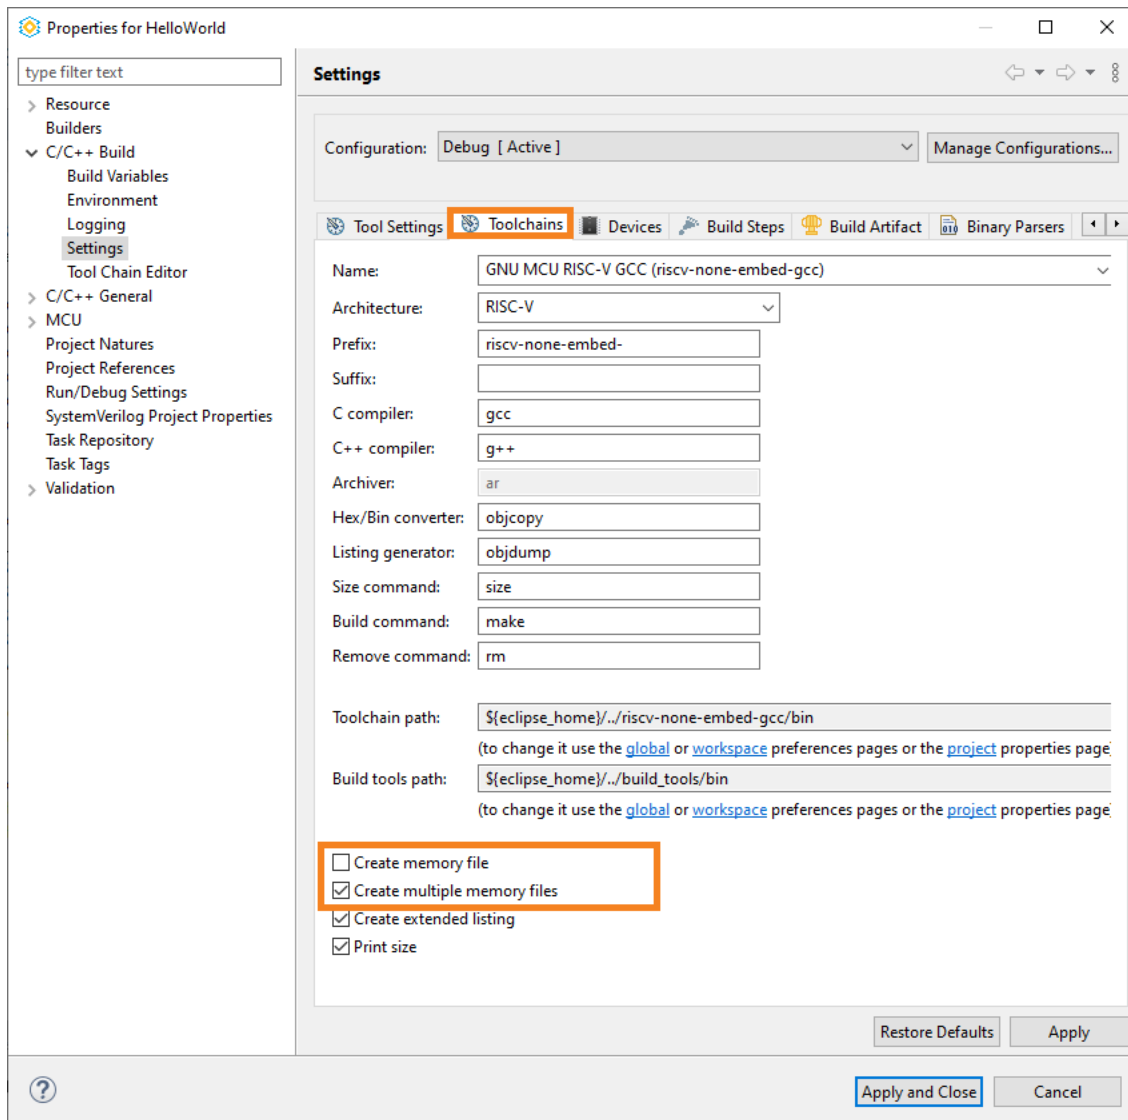

Figure A.4. Toolchains Tab of C/C++ Build Settings
3. Select the **Settings of C/C++ Build** category from the left pane. Select the **Toolchains** tab (Figure A.4).